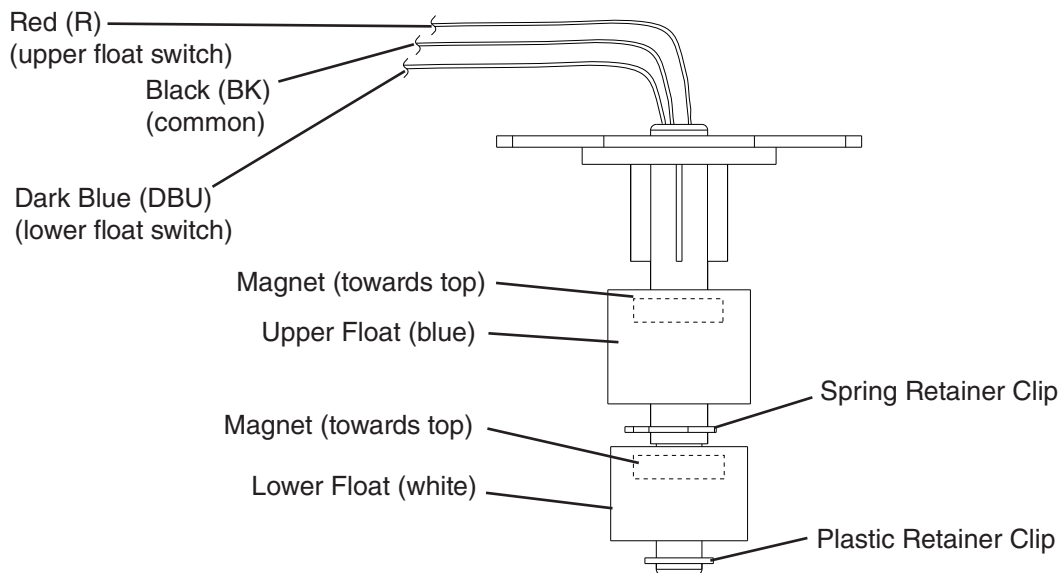

Fig. 4
- 5) While not necessary, the floats can be removed from the shaft during cleaning. If you remove them, note that the blue float is on top. The floats must be installed with the magnets inside them towards the top of the switch. See Fig. 4. Installing the floats upside down will affect the timing of FS operation.